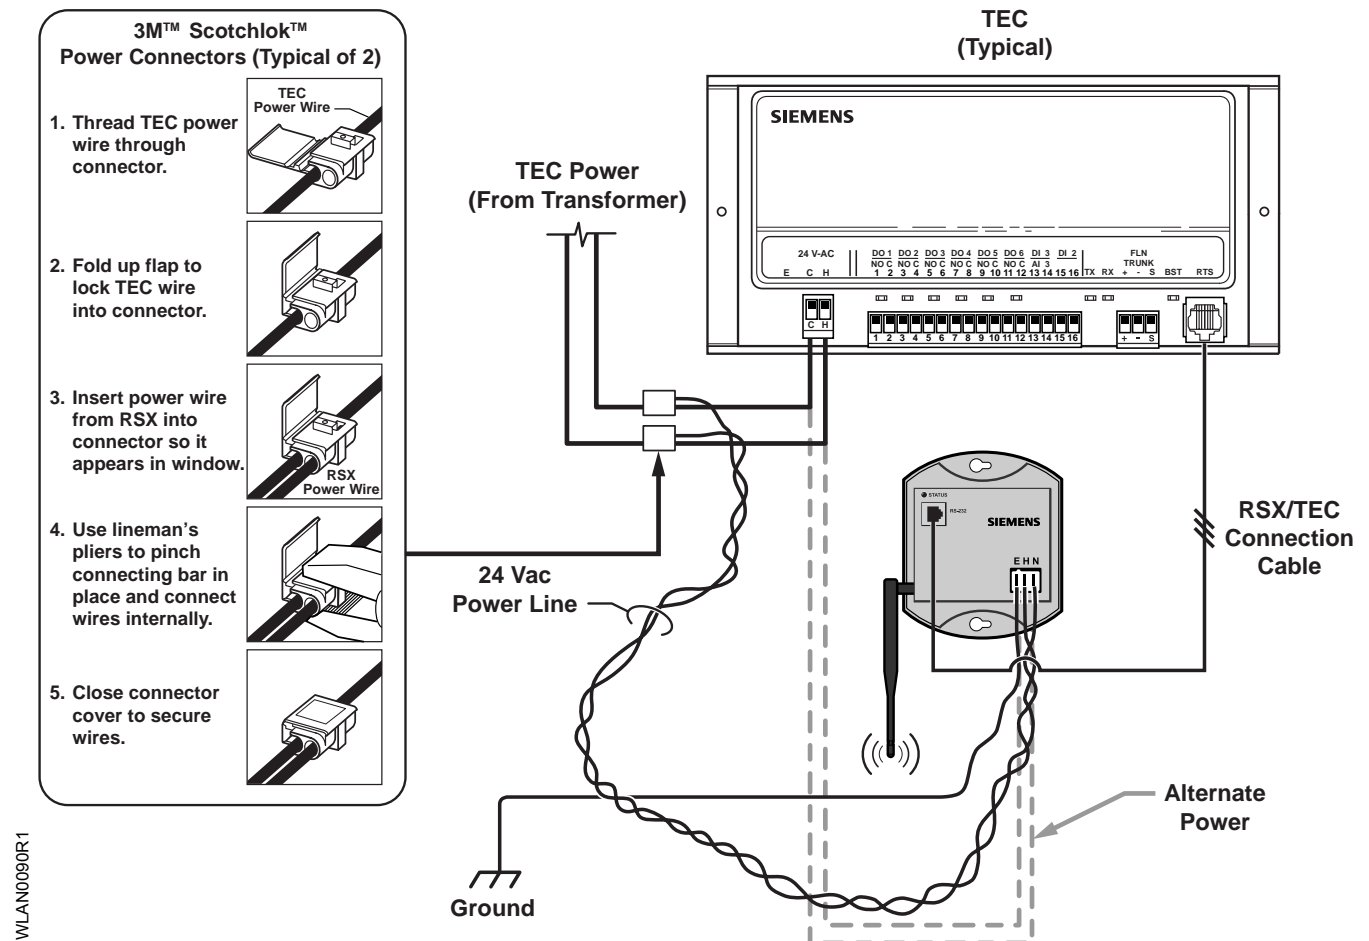

Figure 4. RSX Communication and Power Wiring.
3. Connect the RTS communication port of the TEC device to the RSX (Figure 4). The maximum cable length is 100 ft (30 m).
4. Connect to 24 Vac power (Figure 4).